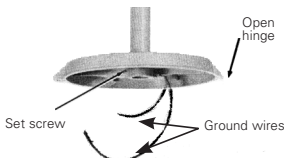

FIGURE 1 (pendant mount shown)
2. Pendant, angled, stanchion mount: Securely thread onto the appropriate NPT size conduit. Tighten set screw located in the conduit hub. (See figure 1).